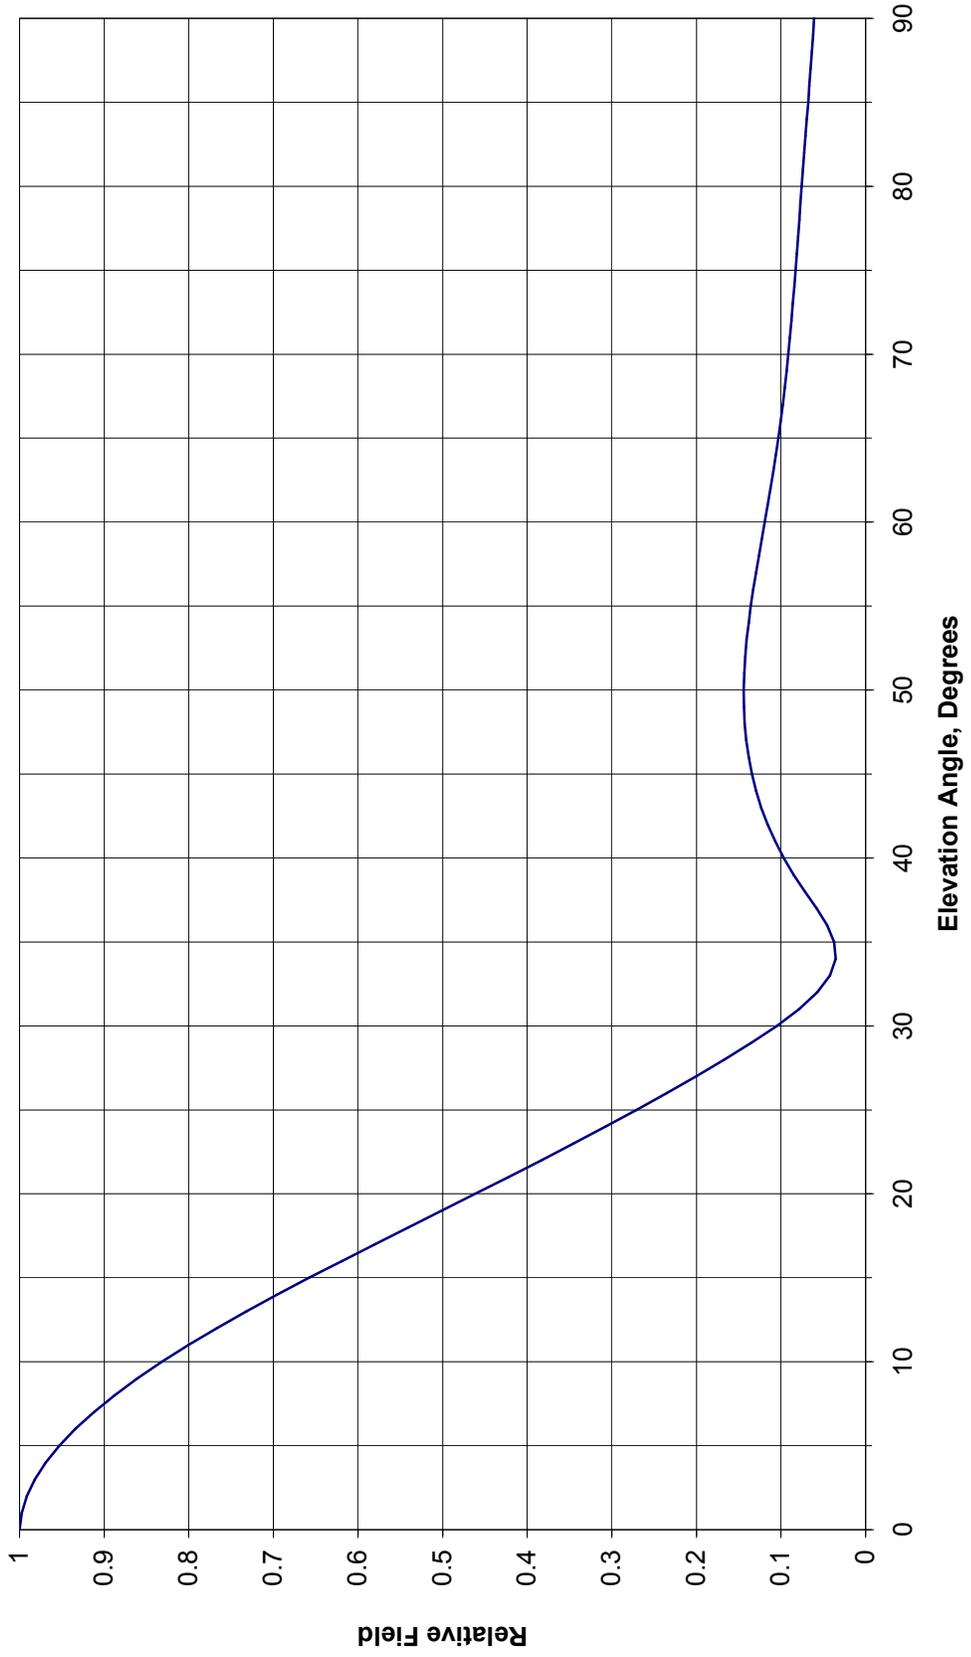

Figure 3
The proposed facilities were evaluated in terms of potential radio frequency (RF) energy exposure at ground level to workers and the general public. The radiation center for the proposed DTV antenna is located 23 meters above ground level. The maximum DTV ERP is 1.3 kW (horizontal polarization). A “worst-case” vertical plane relative field value of 0.2 (for angles below 60 degrees downward) is presumed for the antenna's downward radiation (see Figure 3). The calculated power density at a point 2 meters above ground level is 0.004 mW/cm². This is less than 1% of the FCC's recommended limit of 0.403 mW/cm² for channel 36 for an “uncontrolled” environment. Therefore, based on the responsibility threshold of 5%, the proposal will comply with the RF emission rules.